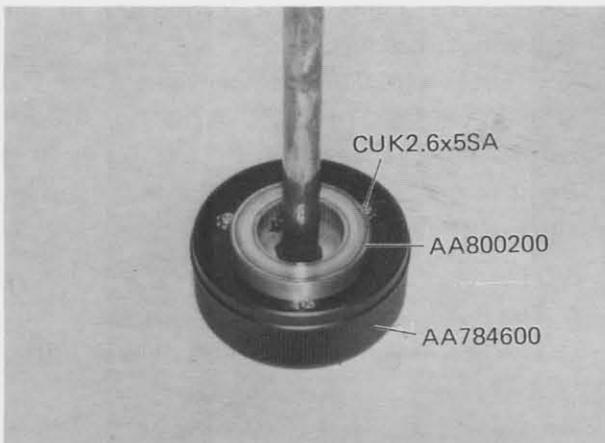

Fig. 3-23
- a) By removing three Screws CUK2.6x5SA and Washers AA800200, disassemble Coarse adjustment knob AA784600. (See Fig. 3-23)